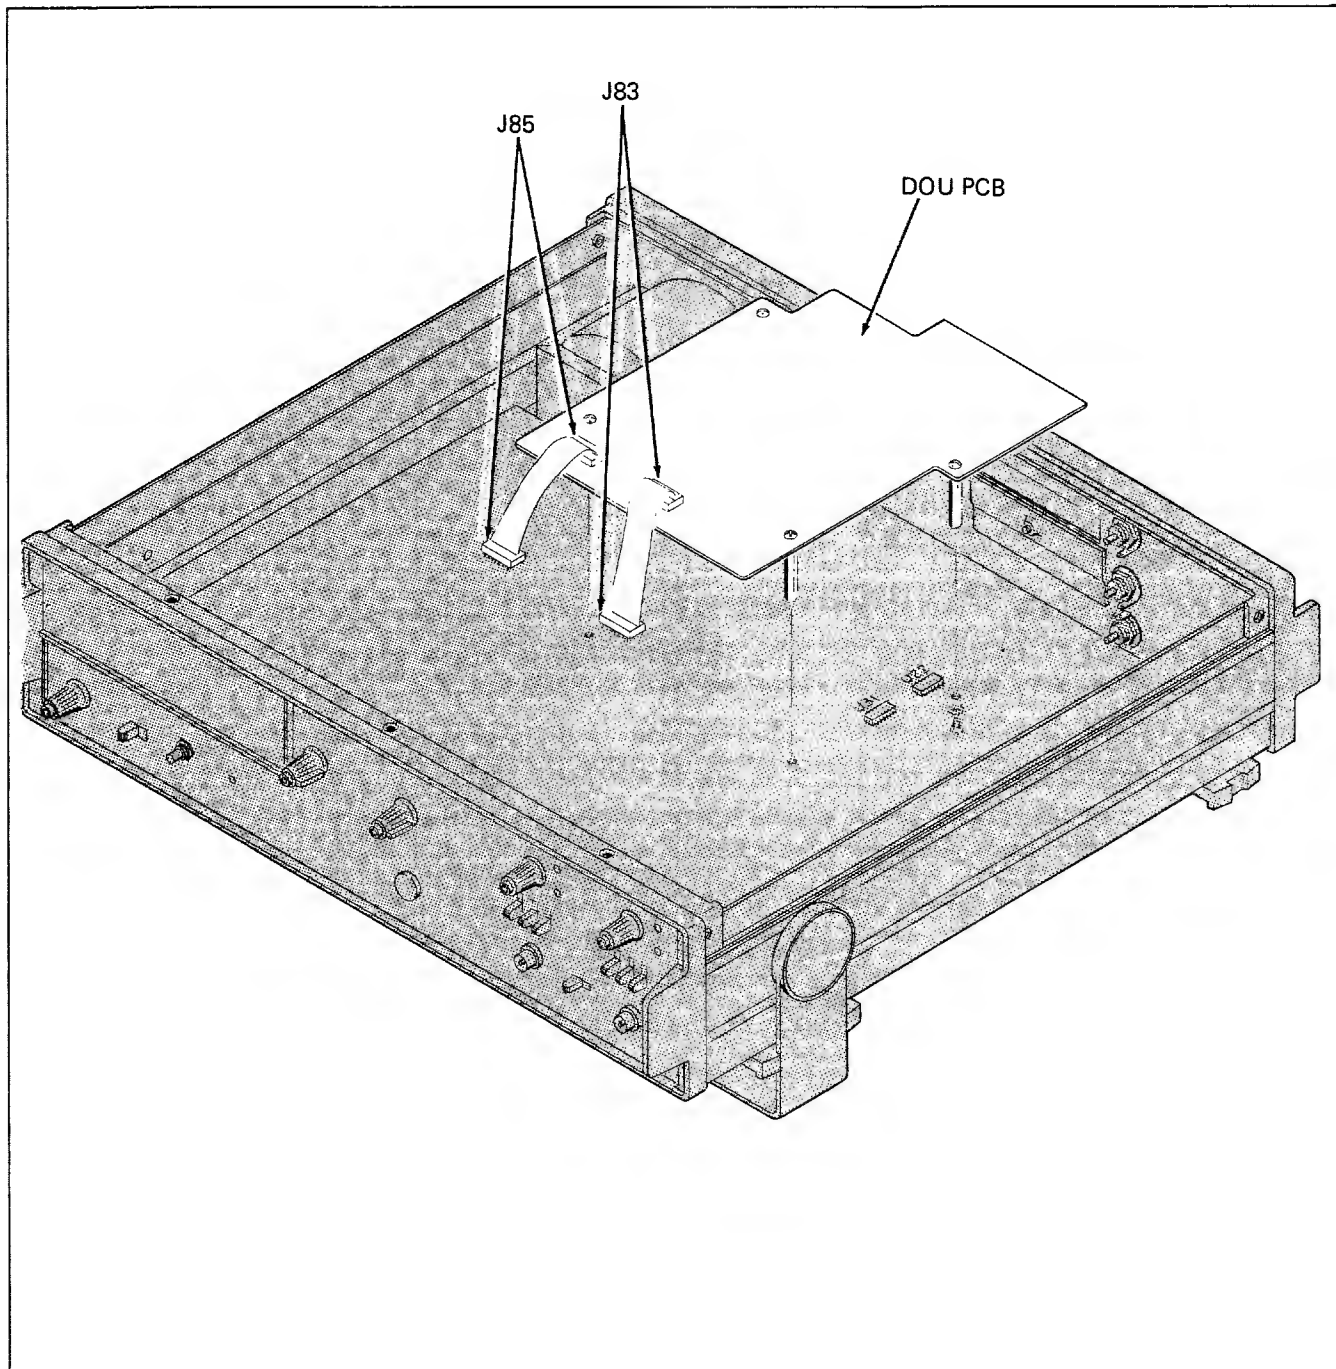

Figure 602-1. DOU Option Location
- c. Position the DOU down on the Main PCB in the position shown in Figure 602-1 so that the stand-offs align with the matching holes in the Main PCB.
- e. Connect the DOU cable assemblies to the Main PCB so that J83 connects to J83 and J85 connects to J85 as shown in Figure 602-1.